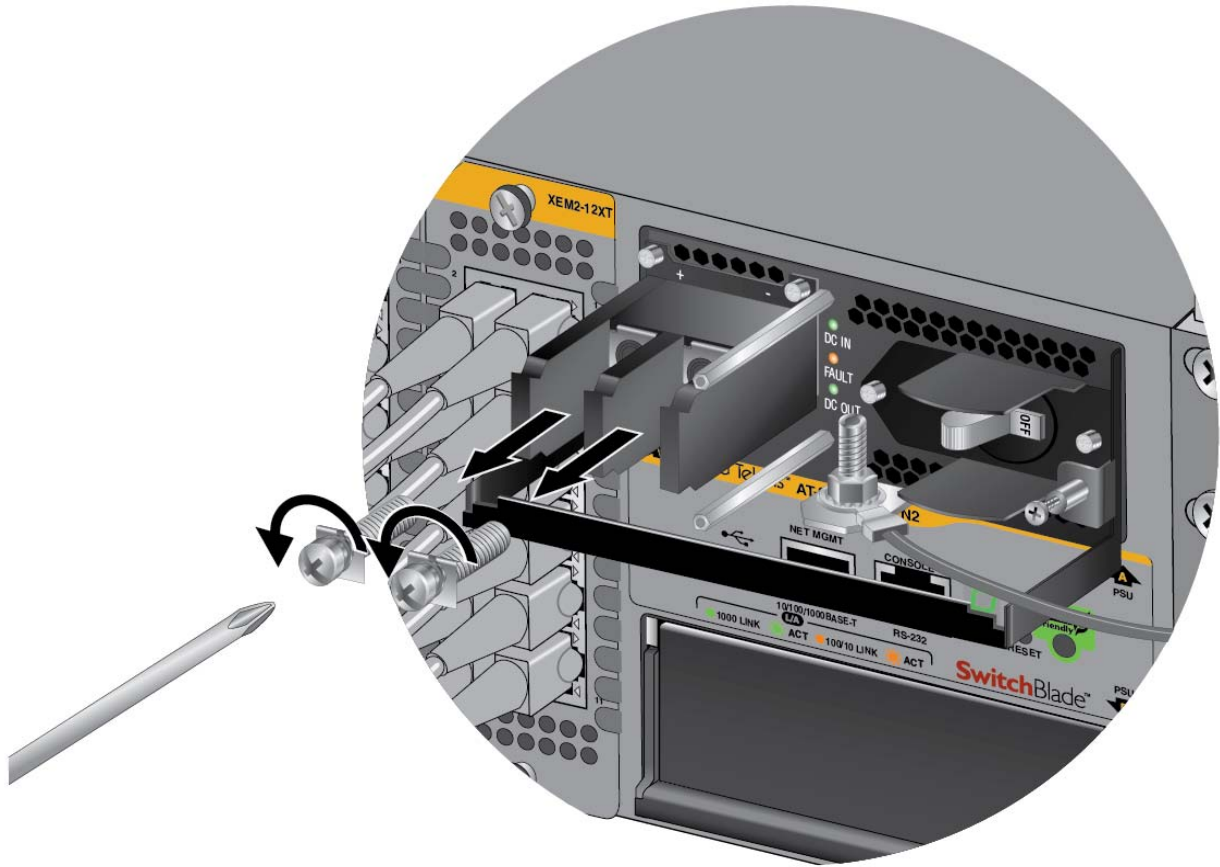

Figure 78. Removing the Terminal Screws
5. Use a #3 Phillips-head screwdriver to remove the two screws from the positive and negative terminals, as shown in Figure 78 on page 113.